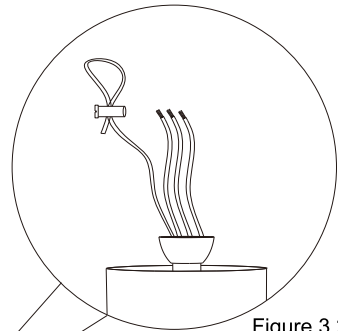

Figure 3.2
- Thread the electric wire from the motor through the down rod. (Figure 3.2)